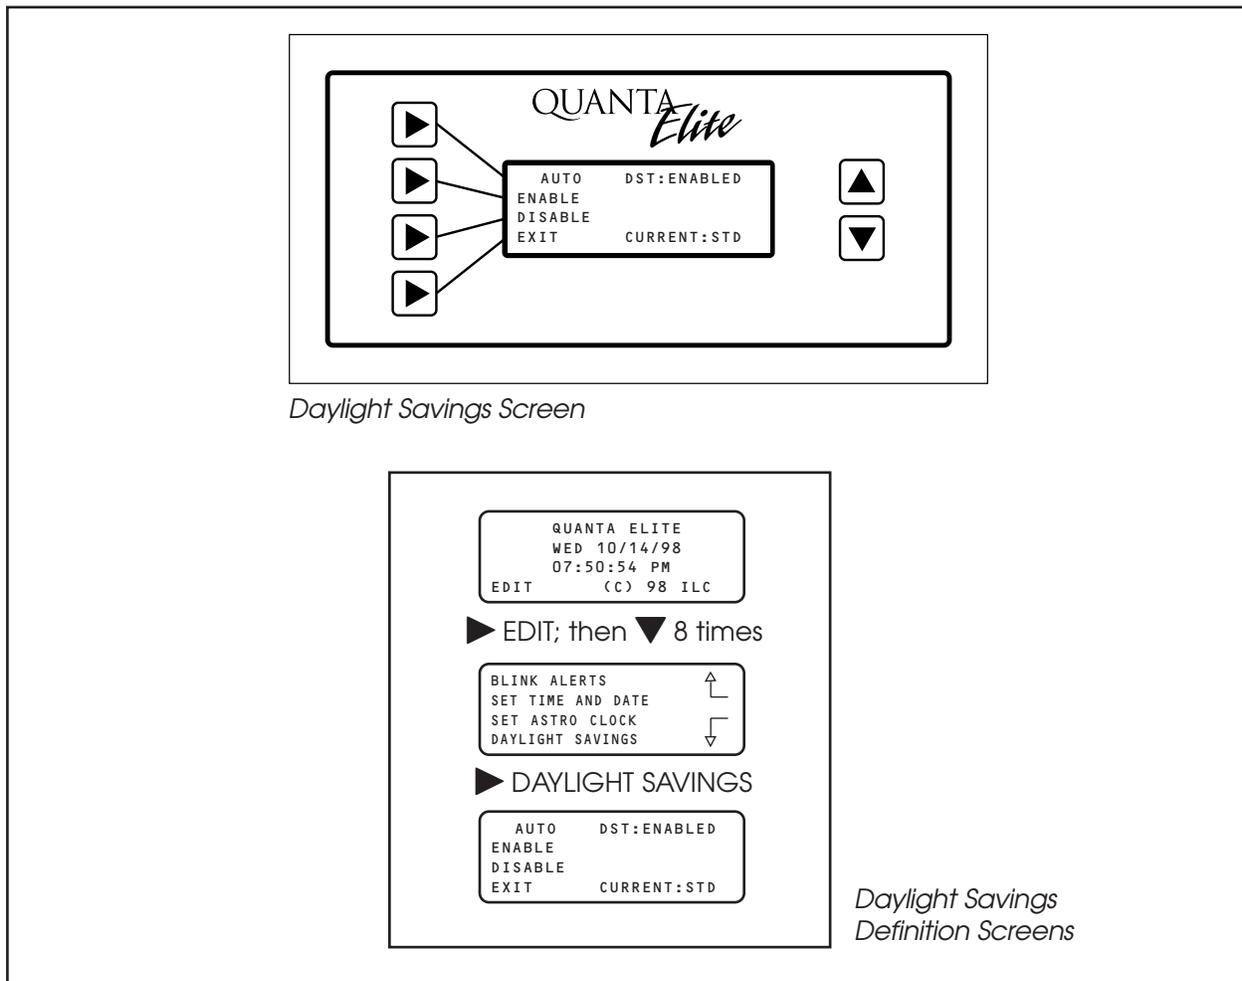

Figure 3.13
2. Then press ▼ 8 times and then ► DAYLIGHT SAVINGS to access the Daylight Savings screen. (See Figure 3.13.)